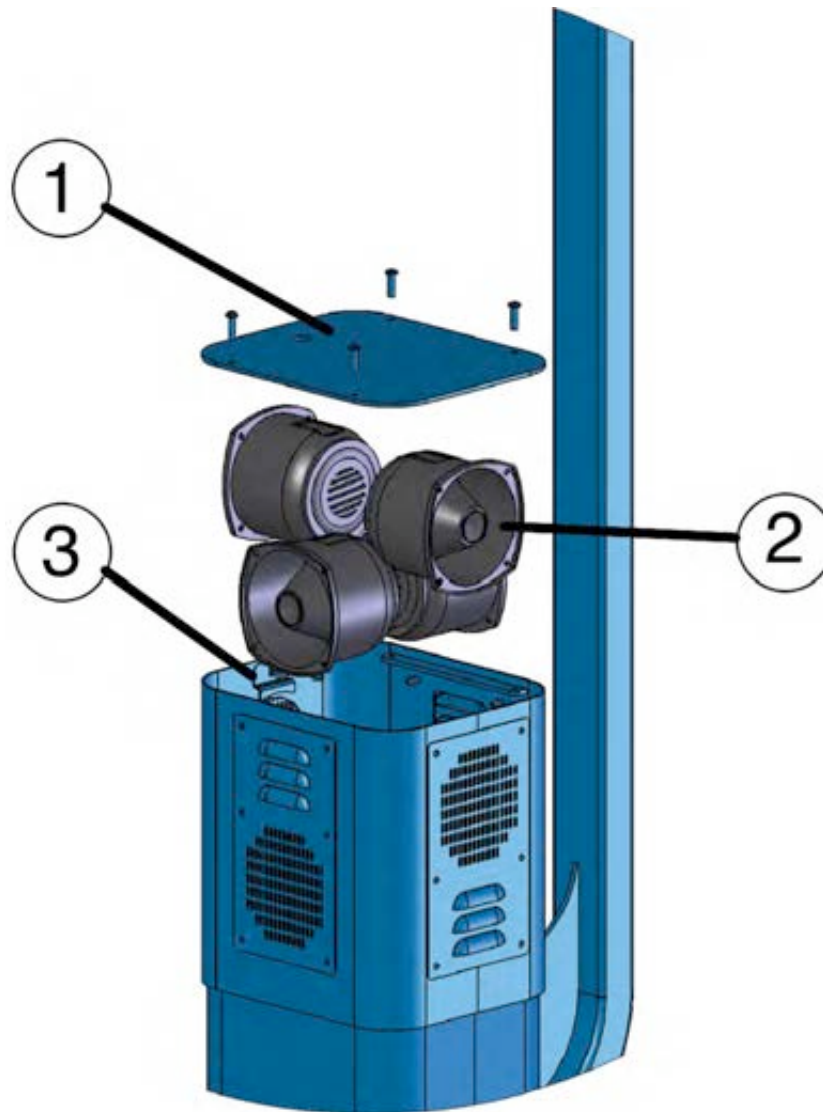

Figure 2. Installing the WEBS® Retrofit Tower Top: (1) Cap, (2) Loudspeaker, (3) Retainer Bracket.
- 2) Install the four WEBS® loudspeakers by locking each one of them down with the retainer bracket, starting with the bottommost speakers first (see Figure 2).